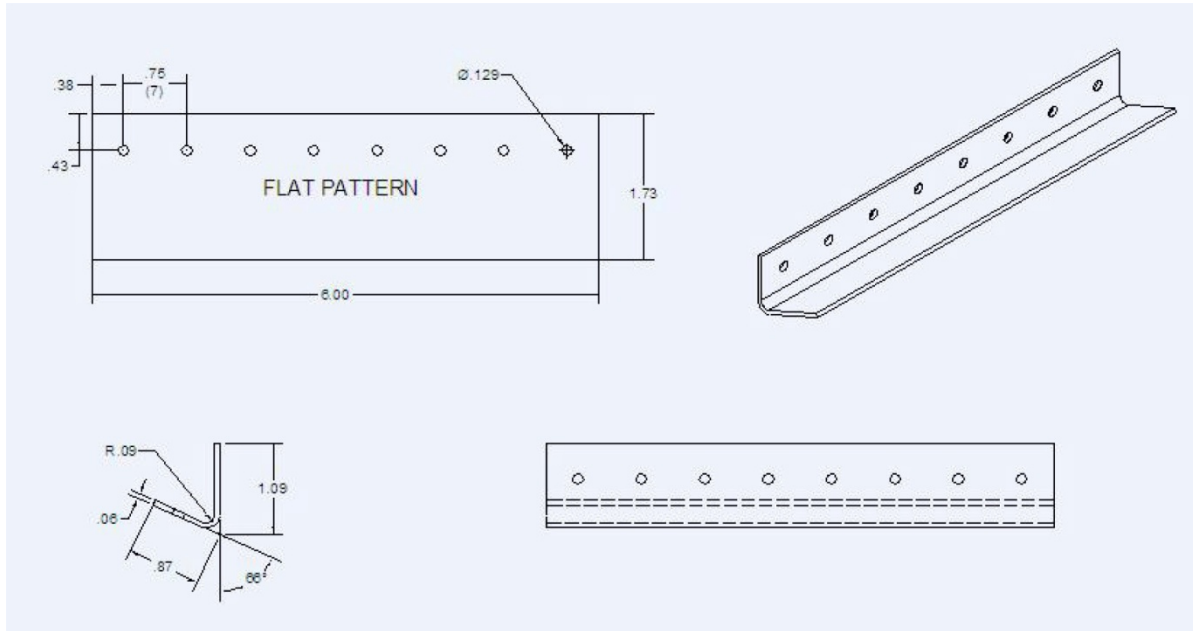

FIGURE 9.5 DOUBLER SECTIONS
- Fabricate keel splice doubler sections from 6061-T6 .060" aluminum and using figure 9.5 as recommended dimensions.